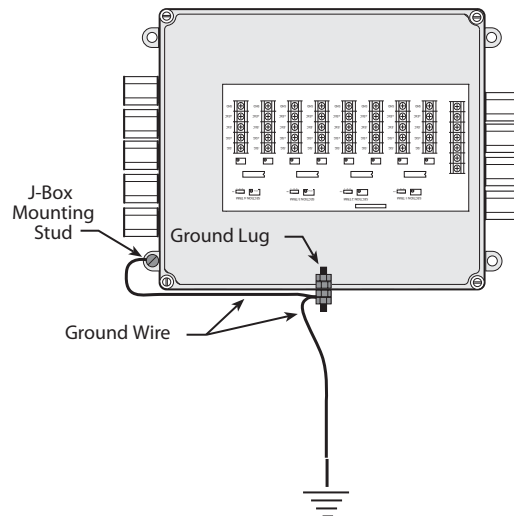

Figure 7-4. Grounding and Transient Protection on OTR Scale
1. Park the loaded weight cart in the middle of the scale and directly over an imaginary line connecting an end pair of cells (1 and 8 in Figure 7-4). Record the indicator reading.